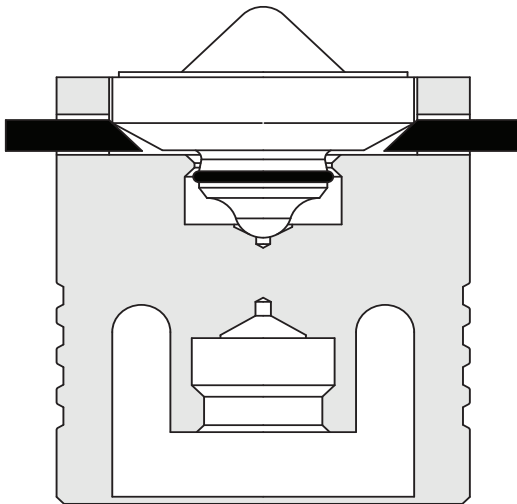

Fig. 5
- 9.1.10** To remove the disc from disc holder, rest the holder on a bench with the disc upwards and insert two spanners into the holes in the disc holder (Figure 5), forcing the disc out of the holder.